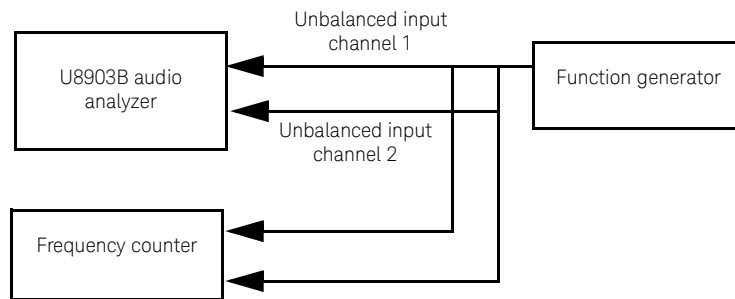

Figure 3-8 Function generator to frequency counter and U8903B connection for wideband frequency accuracy verification
- 2 Connect the function generator outputs to the frequency counter input channel 1 and 2, and to the U8903B unbalanced input channel 1 and 2 as shown in **Figure 3-8**. Preset the U8903B, function generator, and frequency counter.